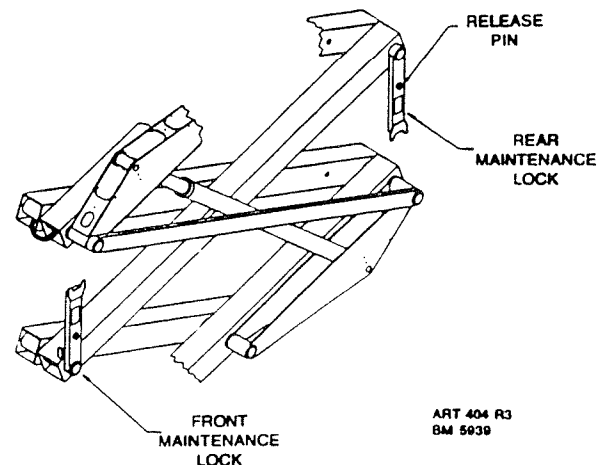

Figure 1-6. Maintenance Locks
3. Pull release pin ring on rear maintenance lock (Figure 1-6) and allow lock to swing down to vertical position so notched end of lock is directly above pivot pin collar.